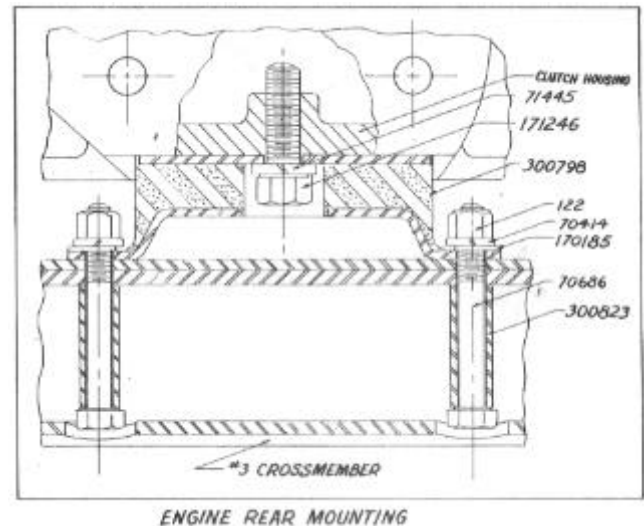

FIGURE 14
1. Remove nuts, lockwashers and bolts attaching the rear mounting to No. 3 cross-member, Figure 14.